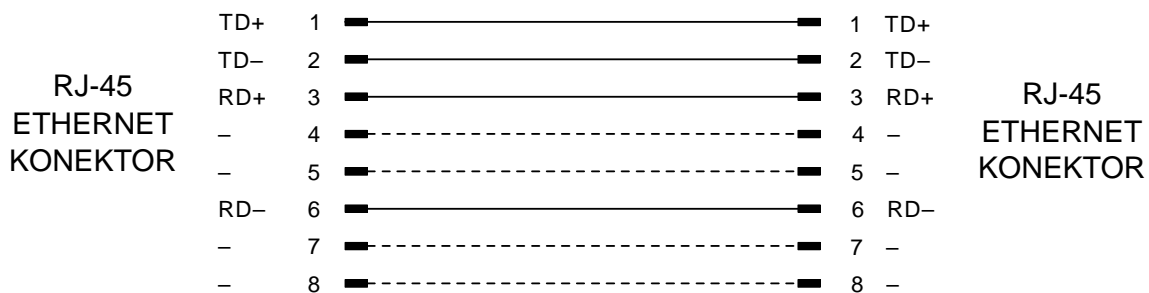

Figure 1.1.6.1 Connection of a straight cable (ETHERNET UTP patch cable)
**Crossover cables** are used for a direct connection of two equivalent devices (e.g. HUB - HUB, without the uplink port on HUBs). They are not generally available and have to be ordered with an expressed request for a crossover cable. The cable is fitted with RJ-45 connectors at both ends (8 pins). Only 4 signals are functional (for commonly used 10Base-T interfaces), the other conductors are not used (outlined by dashed lines in Figure 1.1.6.2). A cable with twisted pairs has to be used (i.e., a non-twisted phone-line cable cannot be used!) and one twisted pair has always to be used for one data flow direction (e.g. RD).